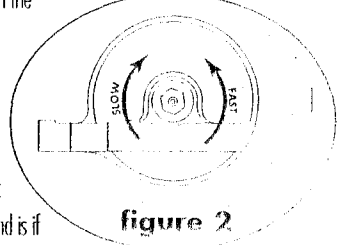

figure 2
A) If your forks rebounding are too slowly, use a 2mm allen and insert it through the adjusting hole on the bottom left fork leg of your fork. Turn the adjuster out, a 1/4 turn at a time and test it (figure 2). The forks should absorb and return fast enough to absorb the next major obstacle. A sign that your forks are rebounding too slowly is if they feel like they pack-up or continue to compress as you go through rough sections.
B) If your forks are rebounding too fast, adjust them by using the same method: by turning the adjuster in a 1/4 turn at a time and test (figure 2). A sign of too fast of rebound is if the forks deflect and the bicycle is hard to hold in lines. The front wheel will also bounce and appear "busy", i.e. you get an additional bounce after landing from a drop.